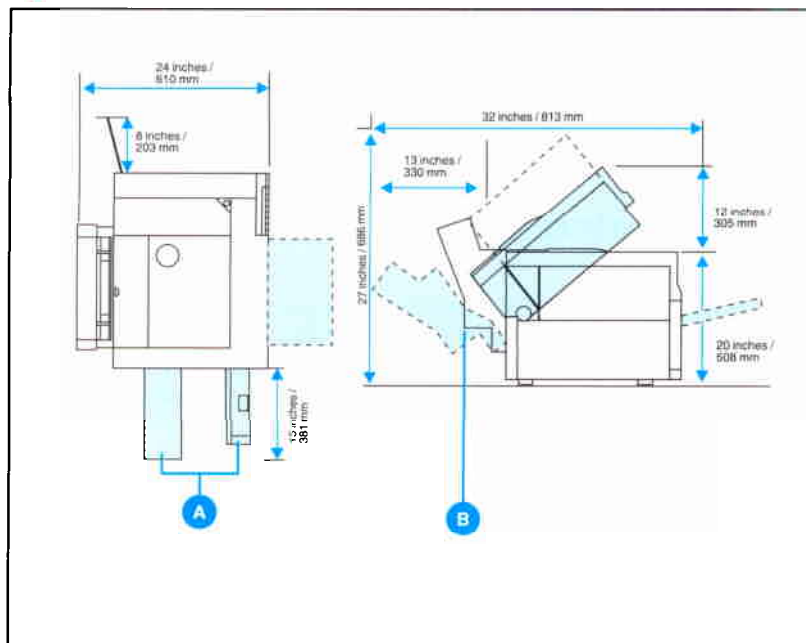

Figure 2-1 Printer Space Requirements
- Install the printer away from walls or other objects. There must be enough space around the printer for proper access and ventilation (see Figure 2-1).